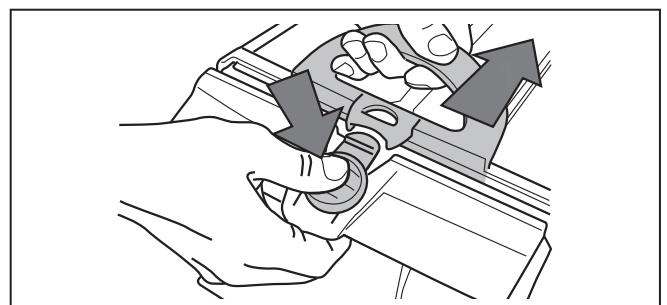

Figure 18. Release Filter Canister Handle
6. Push the quick release button on the canister assembly and pull open the filter assembly (Figure 18).